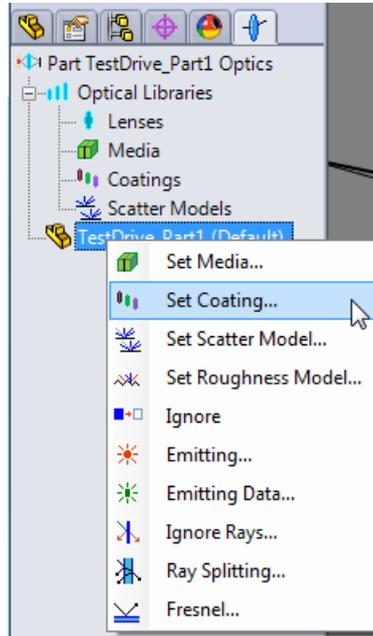

Figure 35 Clicking Set Coating on the Optics Manager to open the Coatings Manager
- 2 Right-click **Part[*] (Default)**, and click **Set Coating** on the shortcut menu to open the Coatings Manager. See Figure 35.